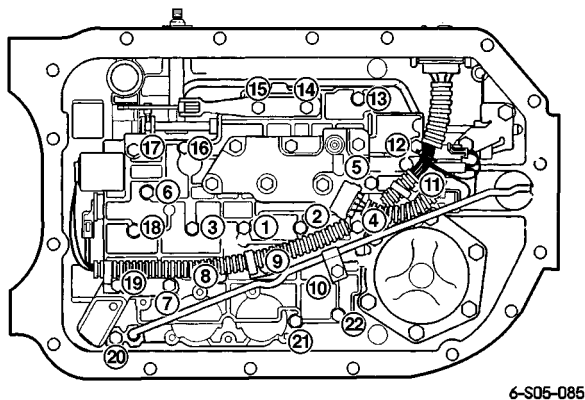

Figure 5-35: Valve Body Bolt Tightening Sequence (in Numerical Order)
7. Tighten valve body bolts to 97 lb-in. (11 N•m) torque. Start at center and work outward in a spiral pattern (Figure 5-35).